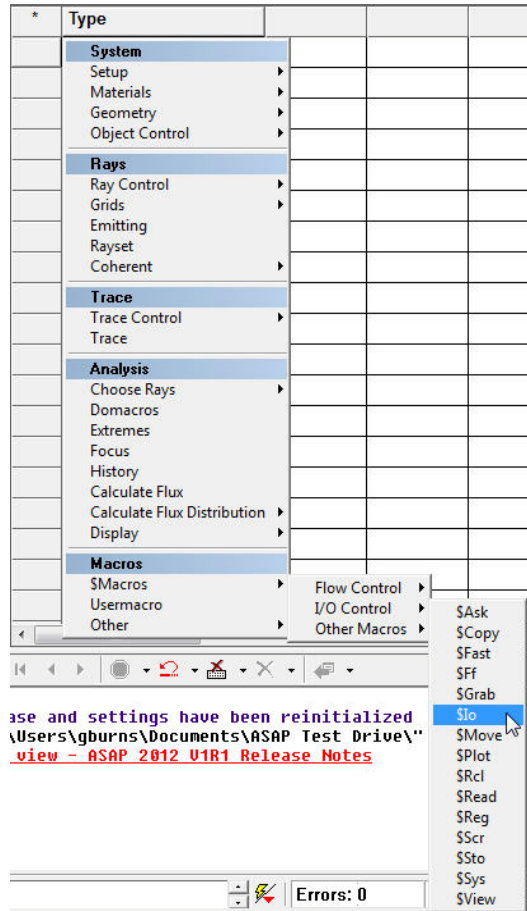

Figure 42 Setting commands to rewind the 3D Viewer file
- To set up the Builder to rewind the 3D Viewer file, double-click the first cell in the new Builder file, and under **Macros** click \$Macros> I/O Control> \$Io. See Figure 42.